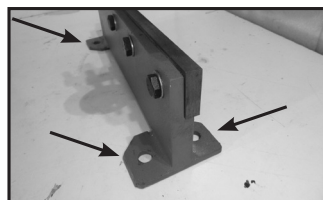

Fig 1
2. Use the mounting holes in the base as a template, drill the mounting holes (Fig 1).